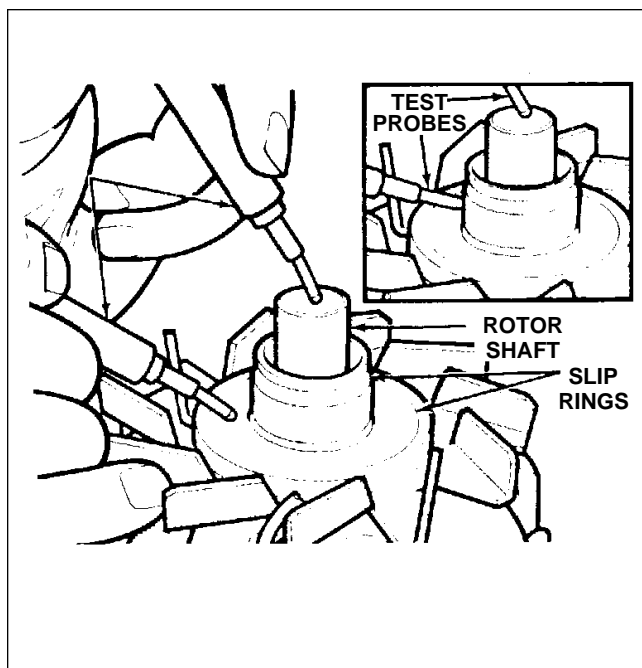

Figure 24-30. Testing Chrysler Alternator Rotor for Ground
11. Testing Of Chrysler Alternator Rotor (Refer to Figures 24-30 and 24-31.)